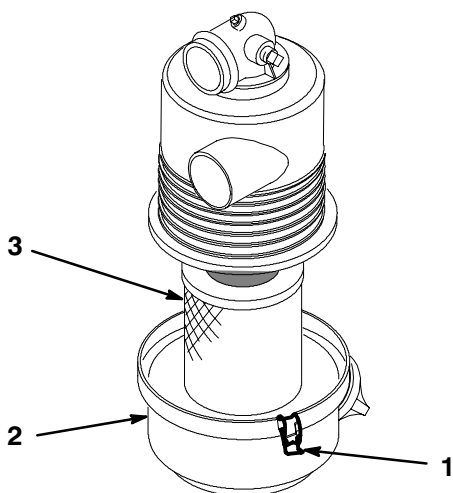

Figure 18
3. Release latches securing air cleaner cover to air cleaner body. Separate cover from body. Clean inside of air cleaner cover (Fig. 18).
4. Gently slide filter out of air cleaner body to reduce the amount of dust dislodged (Fig. 18). Avoid knocking filter against air cleaner body.